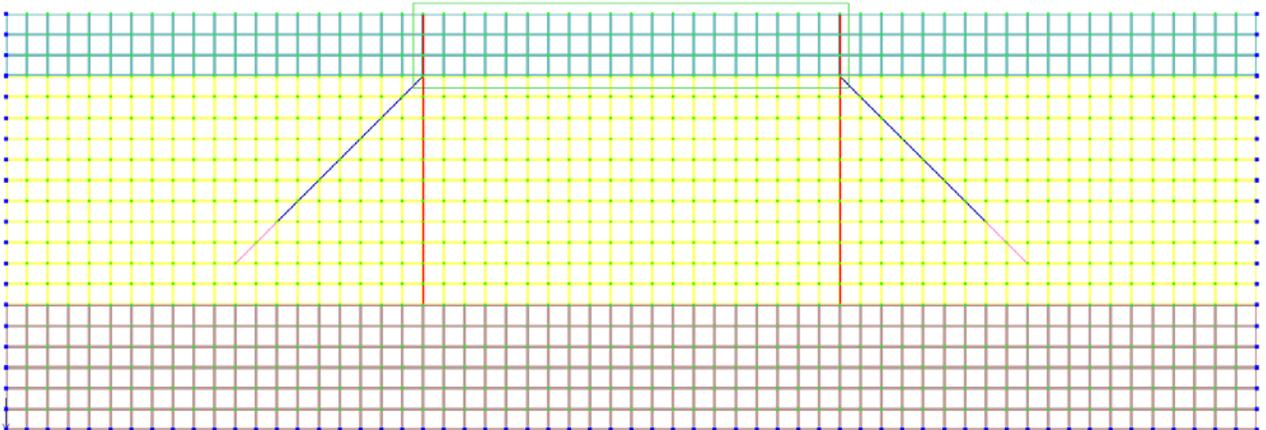

Figure 10.21 How to select elements of the 1st layer of foundation inside the sheet piling
- ⇒ With the pointer, select elements of the 1st layer of foundation inside elements of sheet piling. To do this, just drag the pointer (selection window) from left to right as shown in Fig. 10.21.